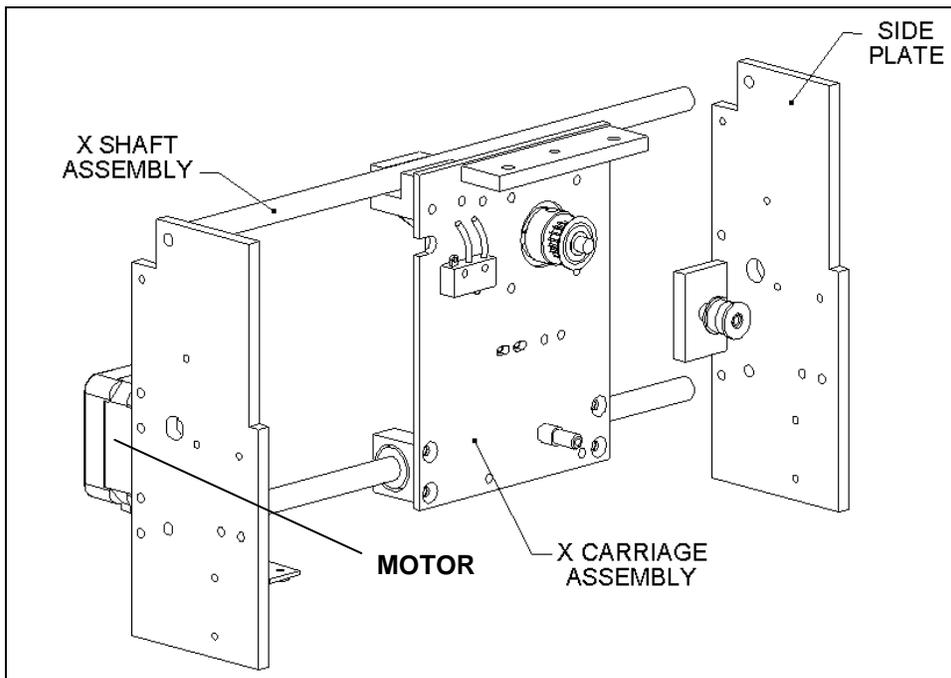

Figure 13-16 Wash X-Drive Motor Assembly
- 1 Remove the two M3 X 10mm Caphead screws that mount the motor to the left side of the X-Drive and Z-Drive assembly (Figure 13-16) and remove the motor from the belt that drives the wash head in the X direction.